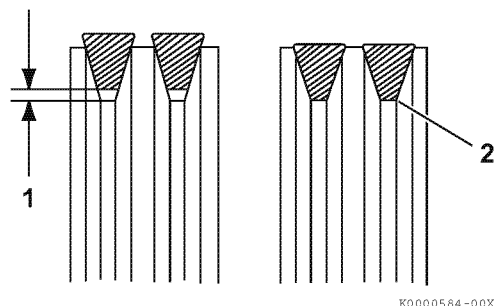

Figure 5-5
- There must be clearance (**Figure 5-5, (1)**) between the V-belt and the bottom of the pulley groove. If there is no clearance (**Figure 5-5, (2)**) between the V-belt and the bottom of the pulley groove, replace the V-belt.